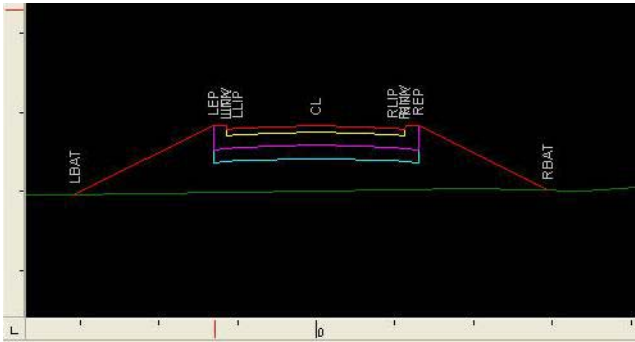

Figure 18-3. Cross Section Pane
- Cross Section Pane (right) – displays the cross section for one chainage. Several surfaces may be shown (Figure 18-3).